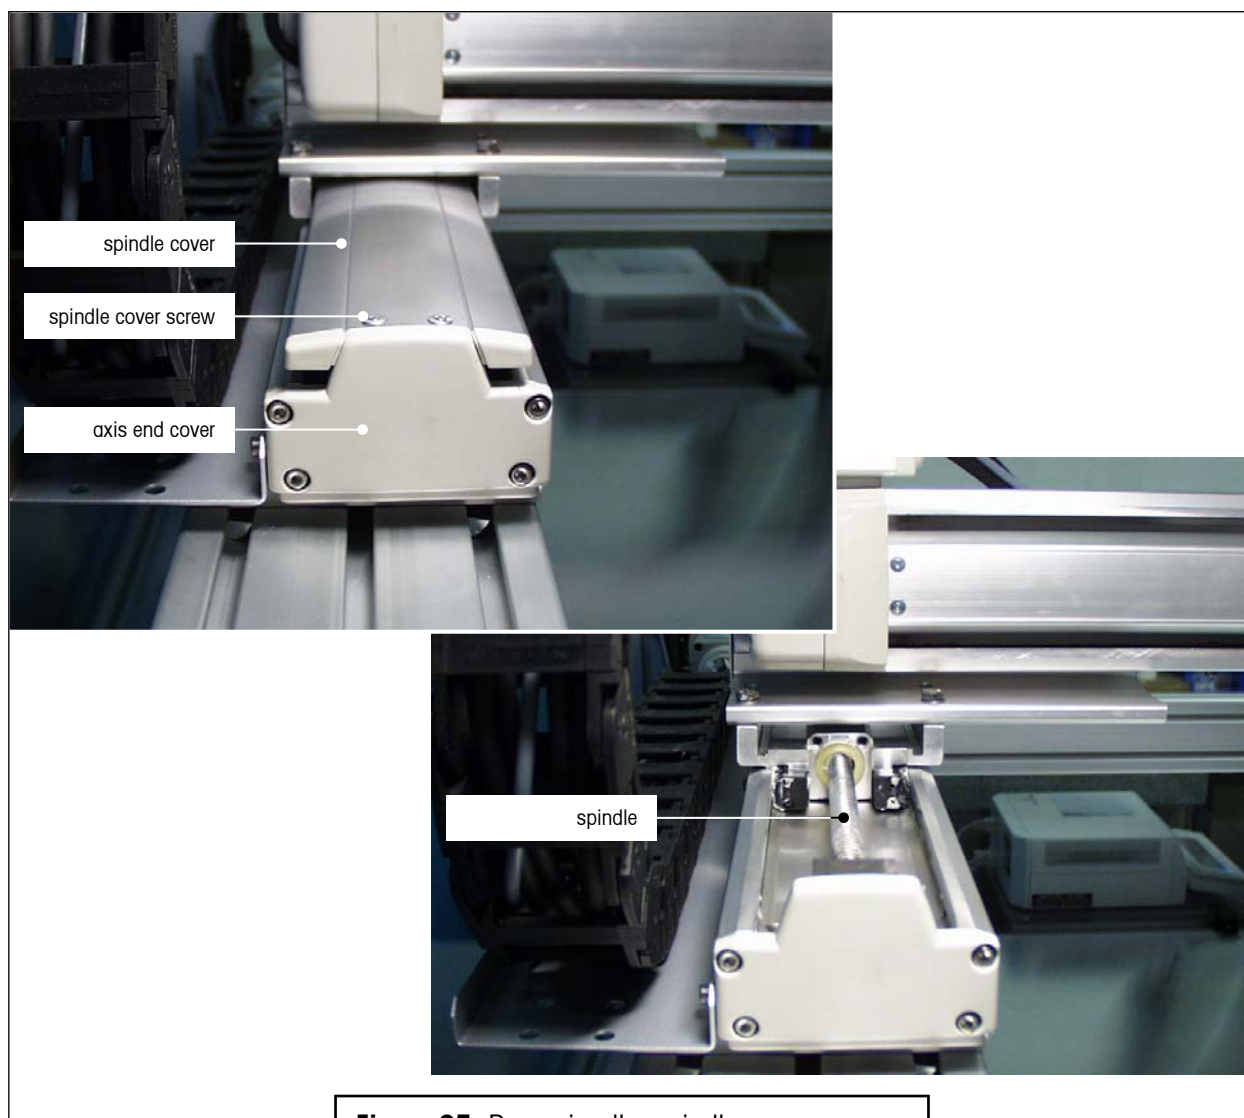

Figure 35 Removing the spindle cover – do not touch the axis end cover!
screws need to be removed on each spindle cover (see Figure 35) - **Warning:** Do not remove any axis end cover since it supports the ball bearing and the axis positioning device (see Figure 35)
- Turn the robot system off; unscrew the spindle cover by means of a 1.5 mm hexagonal wrench; four screws need to be removed (see Figure 35)
- Unscrew the spindle cover by means of a 1.5 mm hexagonal wrench; four screws need to be removed (see Figure 35)